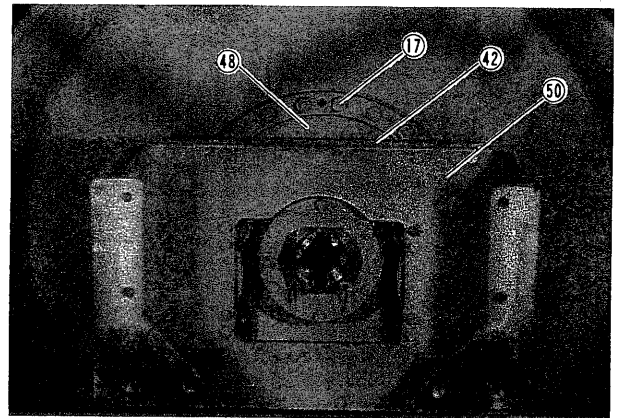

Fig. 80
- (10) Remove bolts (17) and remove axle (50) , disc (42) and axle shaft (48) as one body. (Fig. 73, Fig. 80)
- (11) Minor disassembly